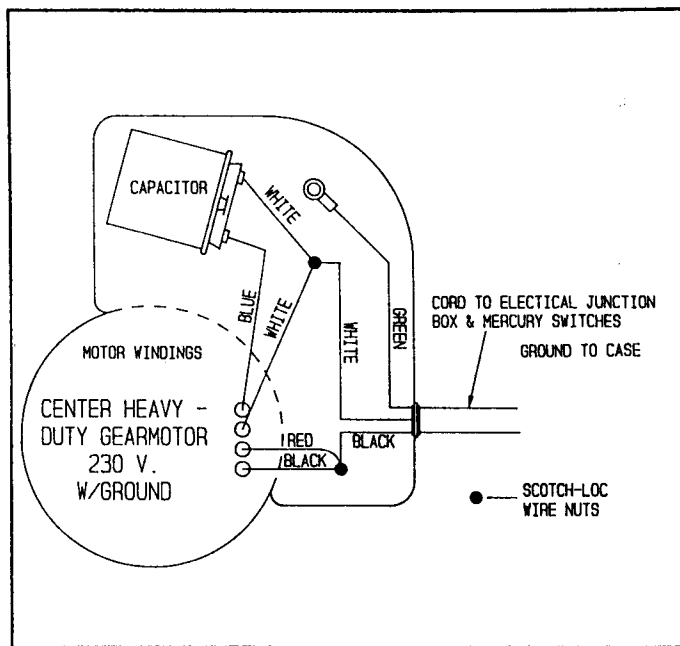

FIG. 8 - GEARMOTOR WIRING
2. Take cover off of gearmotor junction box. Place 1/2" electrical connector in hole on gearmotor junction box. Thread cord through connector. Figs. 8 & 9 Provide a drip loop in cord by motor.